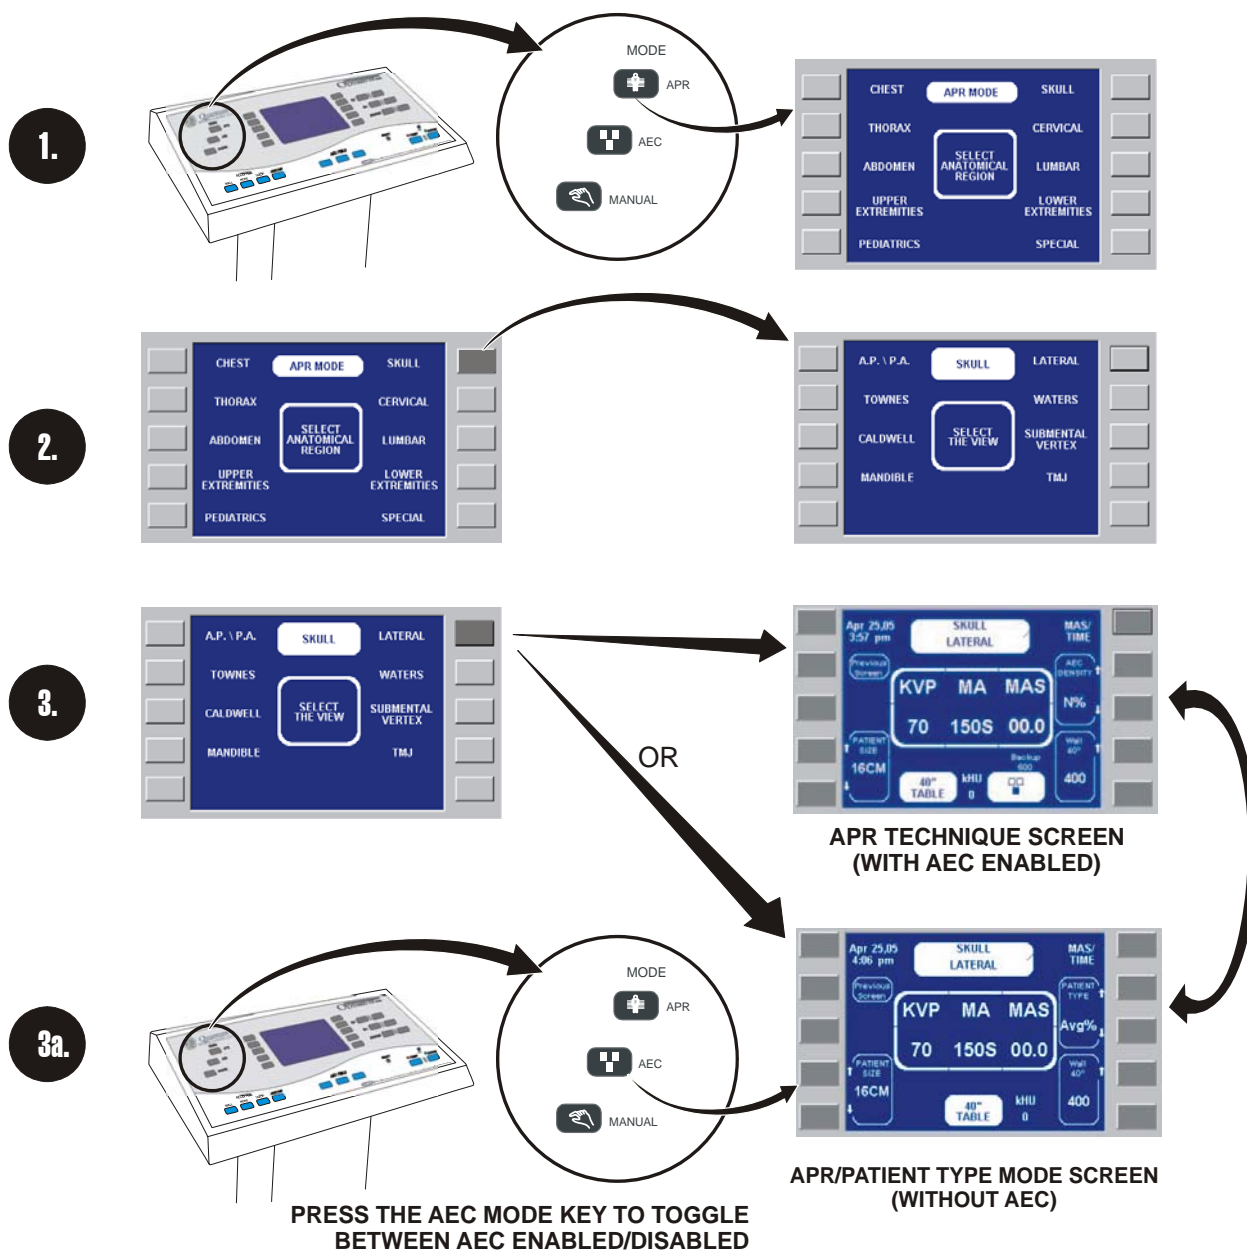

Figure 3-5. Accessing APR Technique Screen
3. Select an Anatomical View by pressing the corresponding key. The system displays the APR screen for the selected anatomical view (see Figure 3-5).